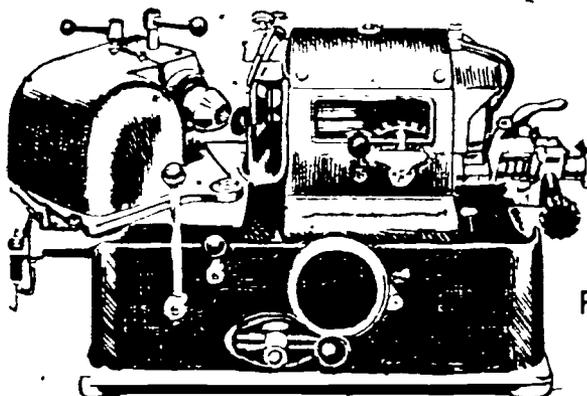

FIGURE 3
3. Set grinder angle (Figure 3)